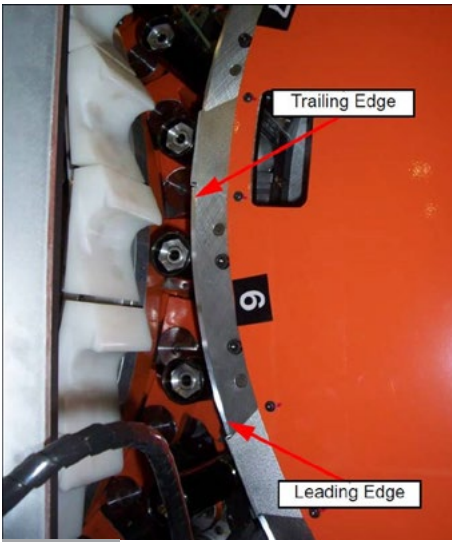

Figure 2
8. Rotate the machine until the mandrel tool is lined up with the end of the blanket #1 about ½ inch [13 mm] before the trail end of the segment. (Figure 2).